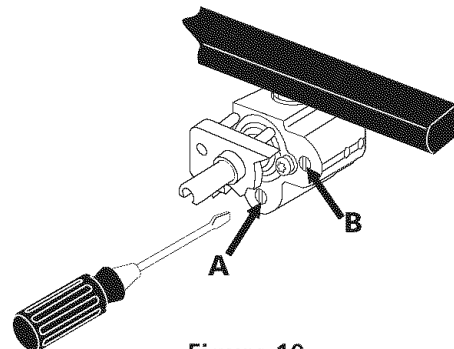

Figure 10
## 5. Adjust the "LOW" Setting of the Dual (Bridge) Surface Burner Valve (Figure 10):
- The rear portion of the bridge burner flame size can be increased or decreased by turning screw **A** (see Figure 10). Use screw **B** to adjust the flame size of the center portion of the bridge burner. Turn counterclockwise the screw to increase flame size. Turn clockwise the screw to decrease flame size. Adjust flame until you can quickly turn knob from LITE to LOWEST POSITION without extinguishing the flame. Flame should be as small as possible without going out.